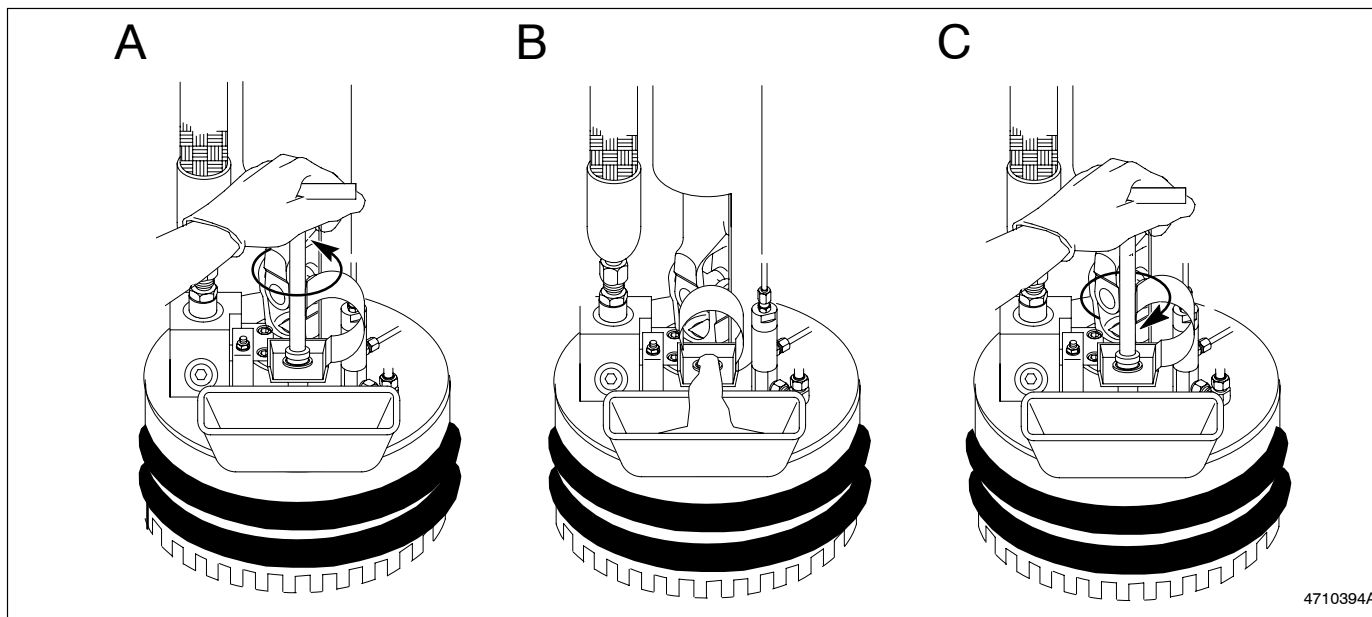

Fig. 4-1 Bleeding the System
8. See Figure 4-1. Place a small tray or metal pan under the bleed port.
4. See Figure 4-1. Place a small tray or metal pan under the bleeder port.